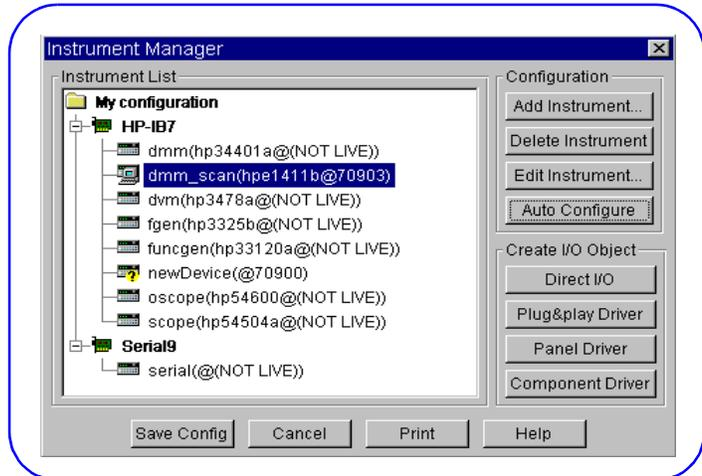

Figure 34. Typical HP VEE Instrument Manager Display
- 5 Click OK to send **IDN?* to the HP E1411B. If the query is successful, instrument communication is verified and the instrument model number (*hpe1411b*) appears (see Figure 34).